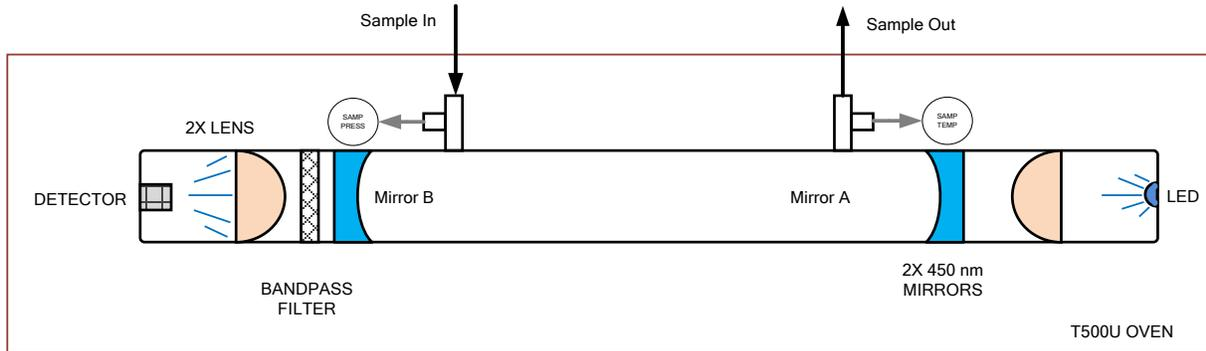

Figure 6-1. T500U Optical Absorption Cell
The CAPS method employed in the T500U is unique in that it applies this fundamental optical absorption law in the frequency domain, rather than using relative changes in light intensity as the primary signal. Ultraviolet light (UV) from the modulating high intensity LED enters a near confocal optical cell (Figure 6-1) through the rear of mirror A. The intensity of the light, as observed by the detector, which is also modulating at a slightly different frequency, located behind Mirror B, builds exponentially in the cell while the LED is ON. The opposite is true when the LED is OFF. Because both mirrors are highly reflective at 450 nm, a prominent absorption band for NO₂, the light takes a considerable amount of time to plateau in the absence of the absorbing gas. However, when NO₂ is present, the mean path length traveled by the light is significantly reduced. This has two effects on the observed intensity as measured by the detector: